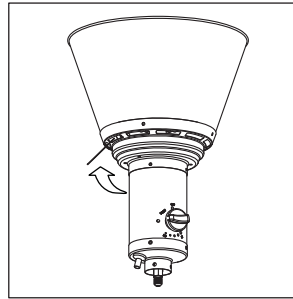

Figure 3
- As you are depressing the control knob, place long stem lighter into the ignition hole on the emitter screen to light the pilot (Figure 3).